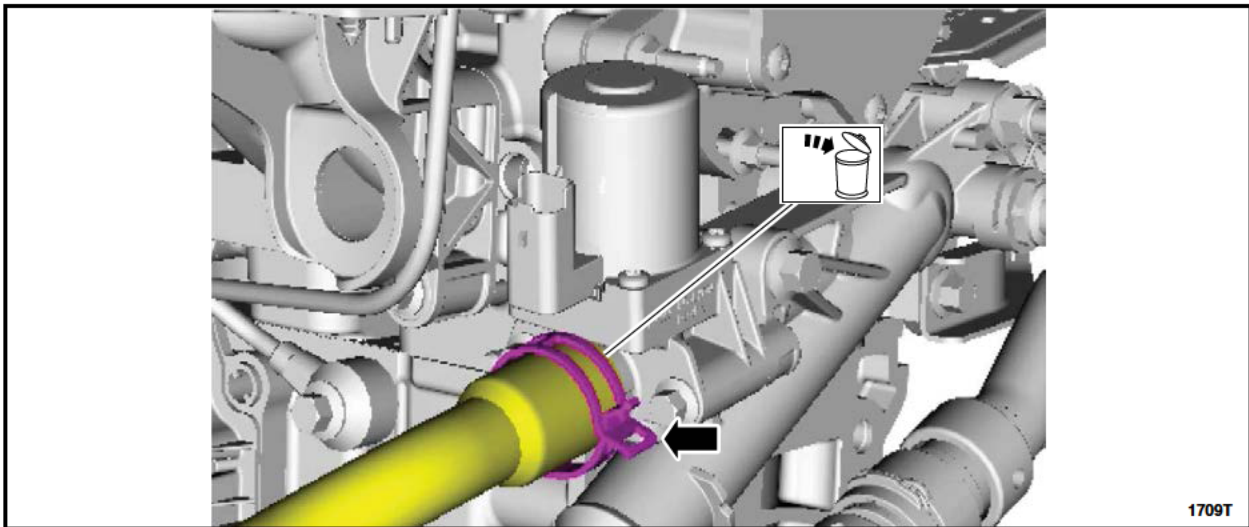

FIGURE H2
2. Use a 13 mm (1/2 in) deep well socket to press downward on the thermostat retaining clip and rotate to remove it from the thermostat housing. Remove the thermostat spring. See Figure H2.
2. Release the clamp and disconnect the coolant hose. Discard the clamp. See Figure H2.